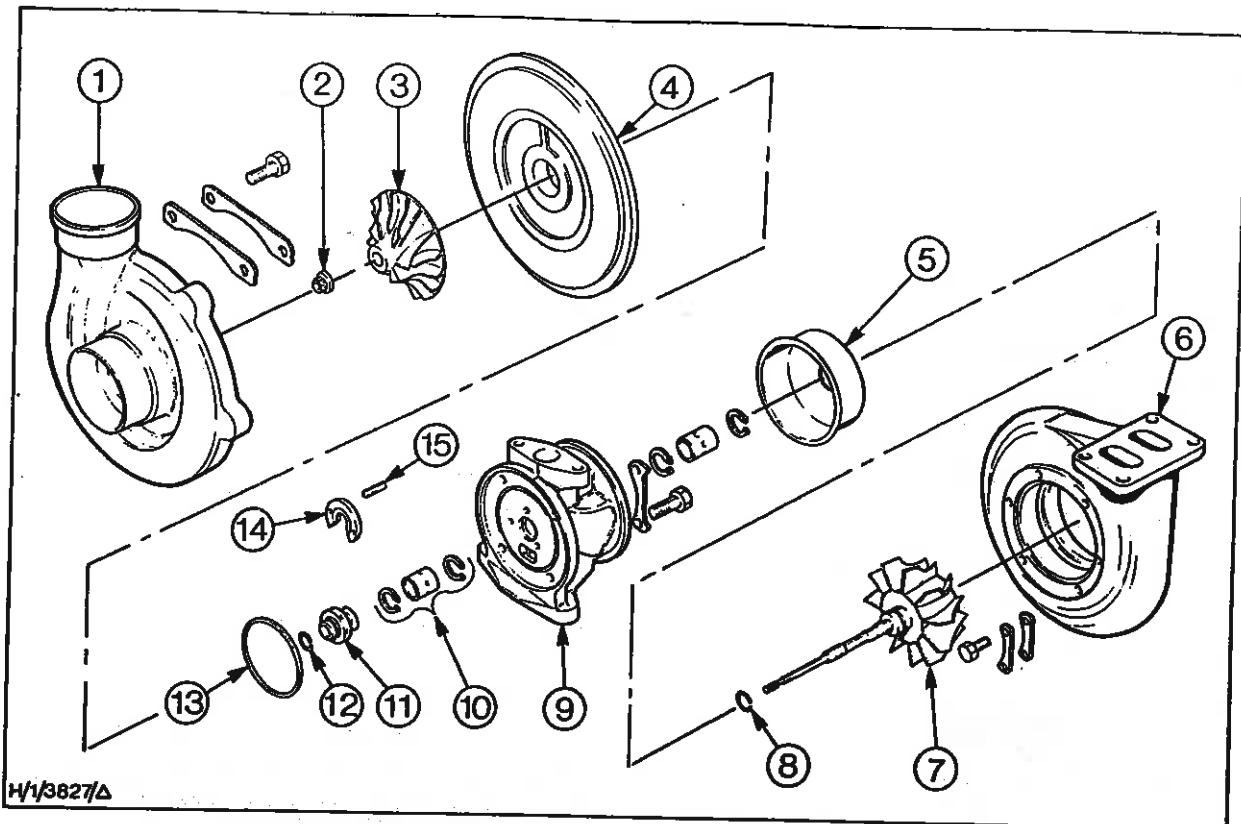

Fig. 44 - Exploded View of Garrett AiResearch Turbocharger
**Assembly - Refer to Figs. 44 and 45**